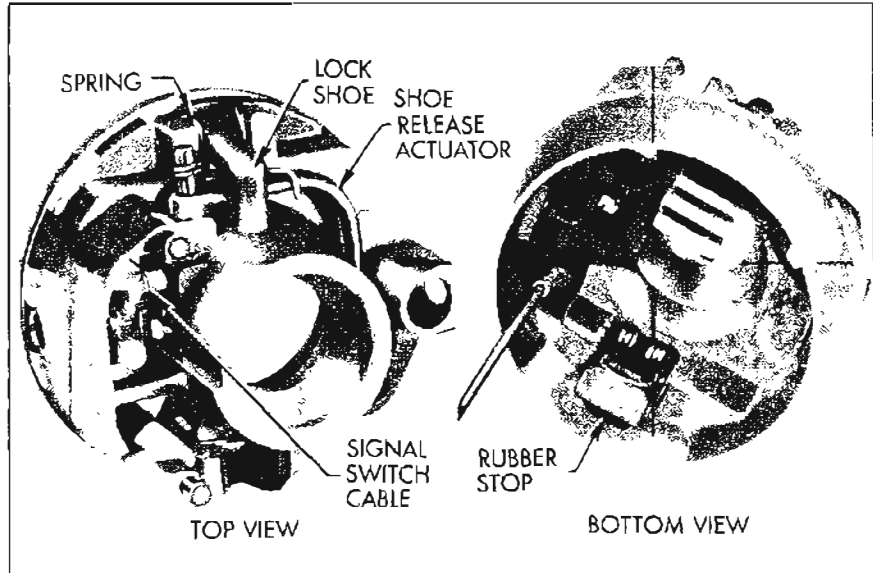

Figure 8-89—Actuator Assembly
4. If lock shoes were removed from actuator, install the springs on the upper end over lock shoes, then install the shoes in the actuator and retain with the pins. See Figure 8-89.